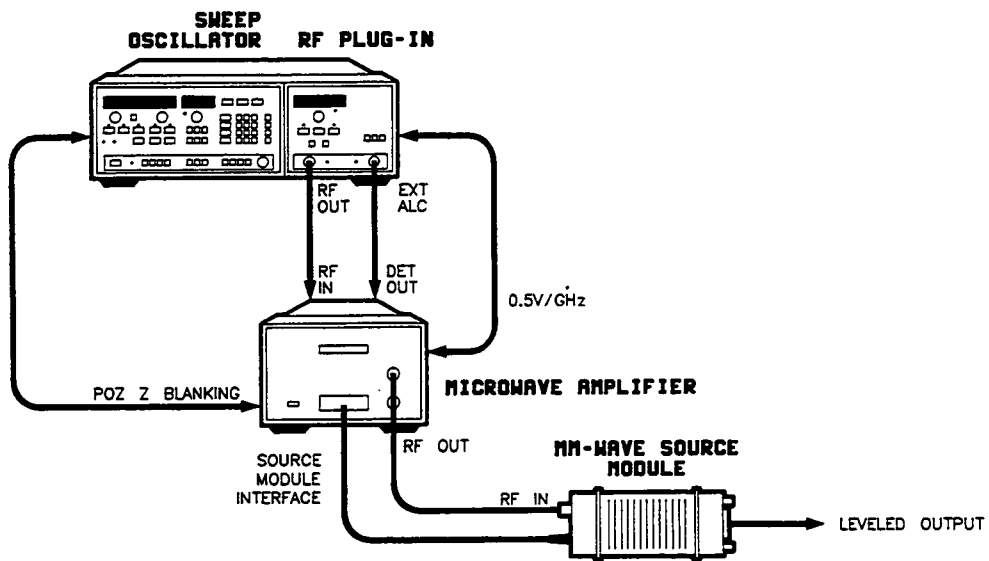

Figure 3-5. Typical millimeter-wave test setup
2. **0.5 V/GHz – 1 V/GHz.** Selectable (1 V/GHz or 0.5 V/GHz) BNC connector output that corresponds to the RF output frequency (0.01 to 18 GHz for 1 V/GHz and 0.01 to 20 GHz for 0.5 V/GHz). The HP 8410B/8411A network analyzer utilizes the 1.0 V/GHz output for phase-locking. The HP 83550 series millimeter-wave source modules use the 0.5 V/GHz as a frequency reference for millimeter-wave applications. See Figure 3-5 for instructions on how to set the frequency reference selection switch (A2S1).
Figure 3-5 shows a typical millimeter-wave test setup using an HP 83592B. Note that an HP 8349B microwave amplifier is required to produce the power level required by the millimeter-wave source module. Also notice that the HP 83550 series millimeter-wave source modules use the 0.5V/GHz as a frequency reference, this 0.5, 1.0 V/GHz frequency reference output is switch selectable on the A2 interface assembly.